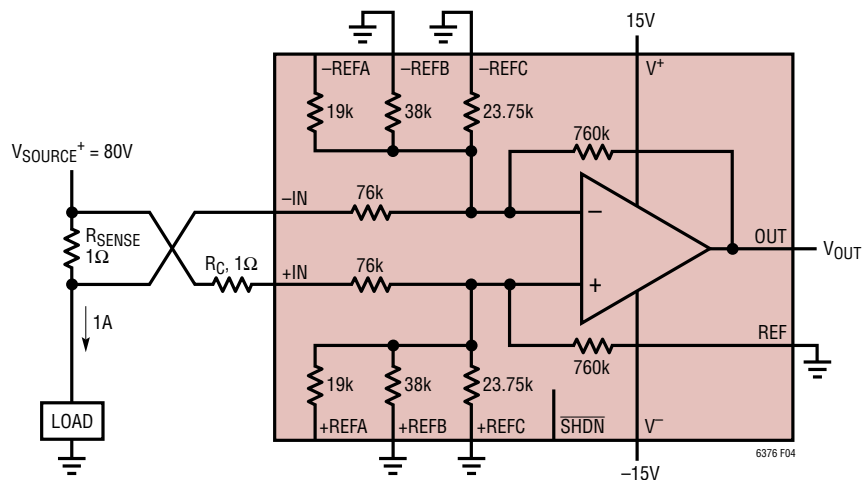

Figure 4. Current Measurement Application
Figure 4 shows the LT6376 in a current measurement application. The error budget for this application is shown in Table 8. The resistor divider ratio is set to 6.3 to divide the 80V input common mode voltage down to 12.7V at the op amp inputs. The 1A current and 1Ω sense resistor produce an output full-scale (FS) voltage of 10V (in the LT6376) and 1V (in all the other listed parts). Table 8 shows the error sources in parts per million (ppm) of the output full-scale voltage across the temperature range of 25°C to 85°C.